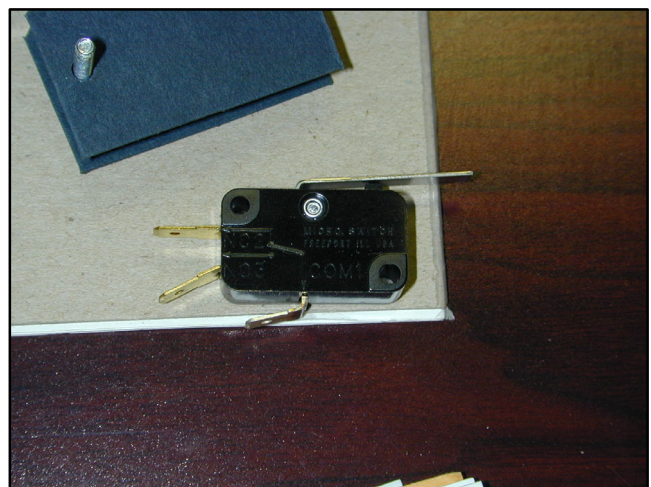

Figure 7-61 Microswitch
9. Remove the suspect microswitch. See Figure 7-61.